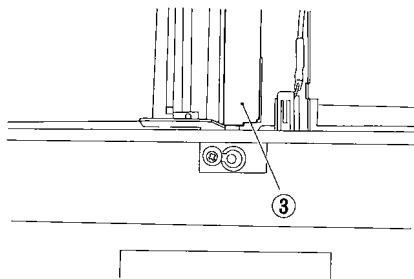

Figure 4-404
- 3) Hold the No. 1 mirror mount ③ around its center, and move it to the right until it is positioned as shown in Figure 4-404.